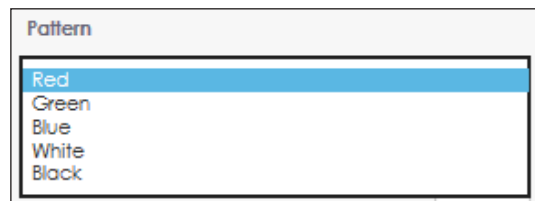

Figure 57: Output Color Patterns
- Choose a display output color from the **Pattern** drop-down list to view the module's current color calibration and evaluate the need for manual module adjustment. Refer to **Figure 57**.